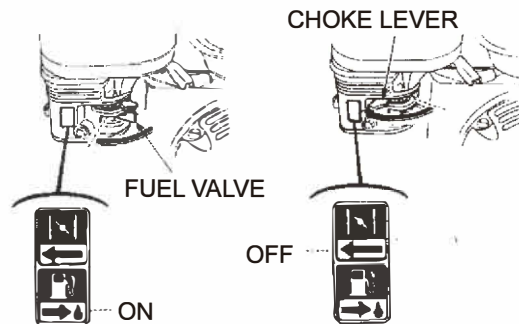

Fig.7
- Do not uses choke if engine is warm or the temperature is high. See figure 7.